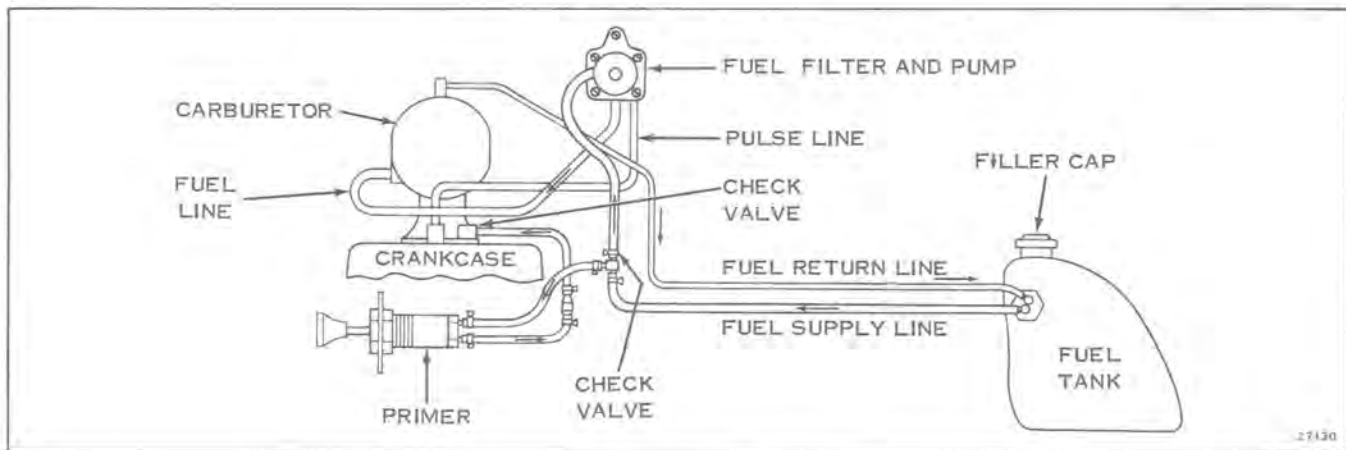

Figure 6-1
Fuel is drawn from the fuel tank by the fuel pump, which is operated by changes in crankcase pressure. These changes in crankcase pressure are transmitted to the fuel pump via the pulse line. Fuel filter screens are located in the fuel tank, at the end of the fuel pick-up tube, at the inlet to the fuel pump and in the carburetor inlet. The filter elements remove water, dirt, or other impurities from the fuel before the fuel passes into the engine. The primer assembly, operated from the control panel, injects raw fuel into the crankcase before starting (see Figure 6-1).
- c. Reconnect fuel hoses and secure with new tie straps per procedure below. Refer to Figure 6-1 for hose positions.
- a. The primer is a simple pump which pumps raw fuel from the fuel line, thru check valves, directly into the intake manifold above the leaf valves (see Figure 6-1).
- b. To check operation of the primer, disconnect hose from manifold check valve. A spurt of fuel should be evident when the plunger is depressed. If little or no fuel is discharged, check the valves in the fuel line, and fuel line fitting for leakage or sticking (refer Figure 6-1).